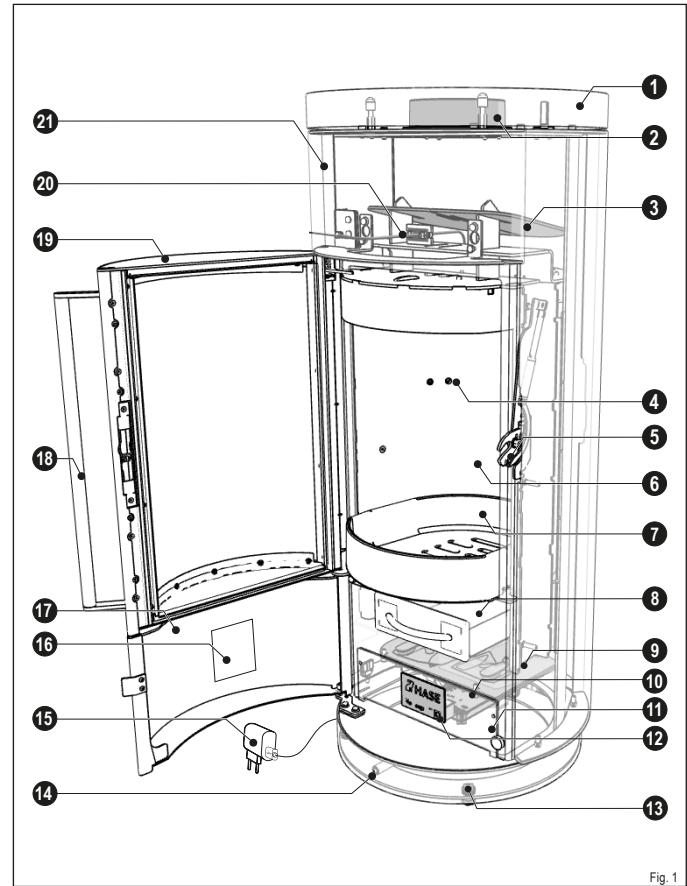

Fig.1
- The firebricks (Fig. 1, No. 6) are made from vermiculite (fireproof mineral).
- The firebox door (Fig. 1, No. 19) of the stove is self-closing, i.e. the firebox door handle (Fig. 1, No. 18) must be held when opening the firebox door (e.g. when adding fuel).
- When the firebox door handle is released, it will close and catch in the door latch (Fig. 1, No. 5) and automatically seal the firebox.
- The iQ technology (Fig. 1, No. 9-10; 12; 14, 20) automatically controls the optimal combustion air setting and firebox temperature to ensure complete, low-emission combustion.
- The stove consists of a steel body (Fig. 1, No. 21) and depending on the model with steel, ceramic or soapstone cladding to increase thermal storage.
- The stove can be levelled with the adjusting screws (Fig. 1, No. 13) to compensate for uneven installation sites.
- The ash drawer (Fig. 1, No. 8) collects ashes and must be emptied regularly. (see chapter "7.3.3 Cleaning the ash drawer and fire grate")
- The control elements, ash drawer and control panel can be accessed via the service door (Fig. 1, No. 23).
- The control panel (Fig. 1, Pos.12) is used to switch the controller on and off.
- The type label (Fig. 1, No. 16) is located on the inside of the service door.
- The mains plug and the USB-C cable (Fig. 1, No. 15) connect the iQ technology to the mains.